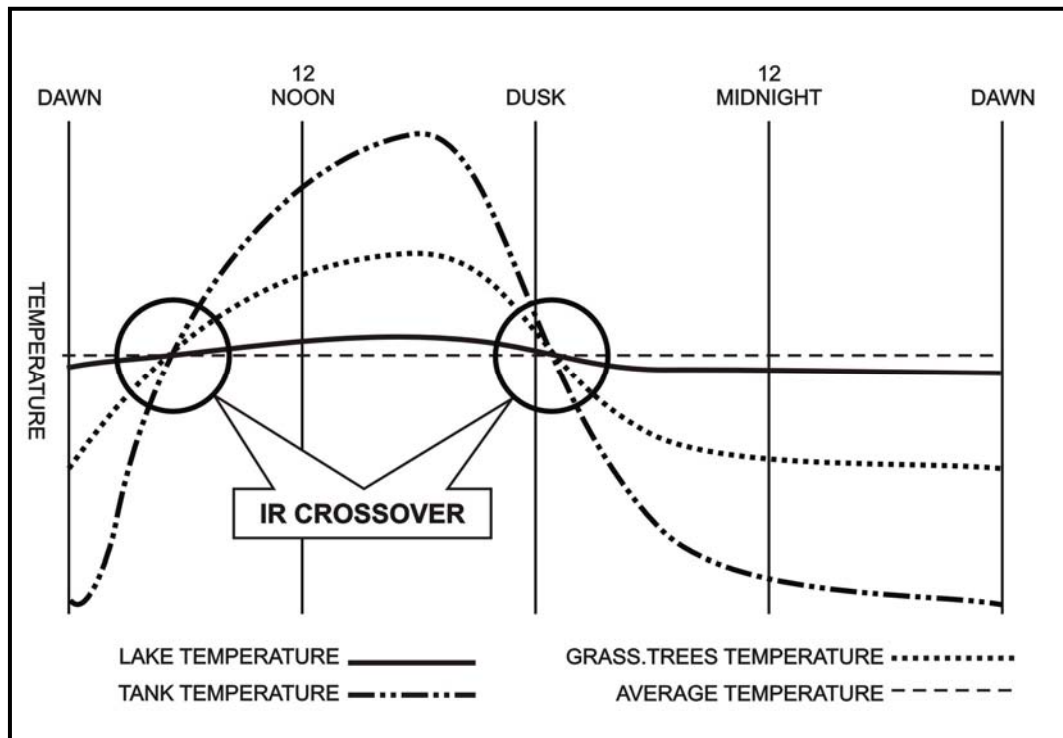

Figure C-12. Crossover periods.
(2) Twice a day, around dawn and dusk, the temperatures of the tank, grass, and trees cross over from being hotter than the river to being cooler (Figure C-12). These two periods are known as *IR crossover* because of the change in the temperature relationships and the visual effect that it produces. During these two periods, everything in the target scene is about the same temperature, which means there are few, if any measurable Delta-Ts. As shown earlier, when there is no measurable Delta-T, the gunner cannot distinguish a target from its background.